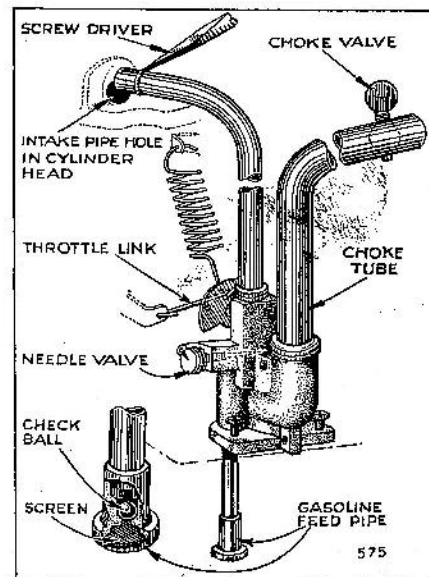

FIG. 10—CARBURETOR
50. The carburetor used on your Model "FH" Motor is shown in Fig. 10. As received from the factory it is prop-
**53. Removing and Replacing Carburetor.** Remove clamps from the choke tube and the intake pipe. Pull the choke tube out of the carburetor. Unscrew carburetor from base. Remove intake pipe by giving it a fast pull so as to slip the end of pipe out of cylinder head. Unhook the throttle spring and link, noting the manner in which they are hooked, so they can be properly assembled again. To replace the carburetor, reverse the operations performed above. When replacing the intake pipe, use some tool such as a screw driver, to spring the end of pipe into the hole in cylinder head as shown in Fig. 10.